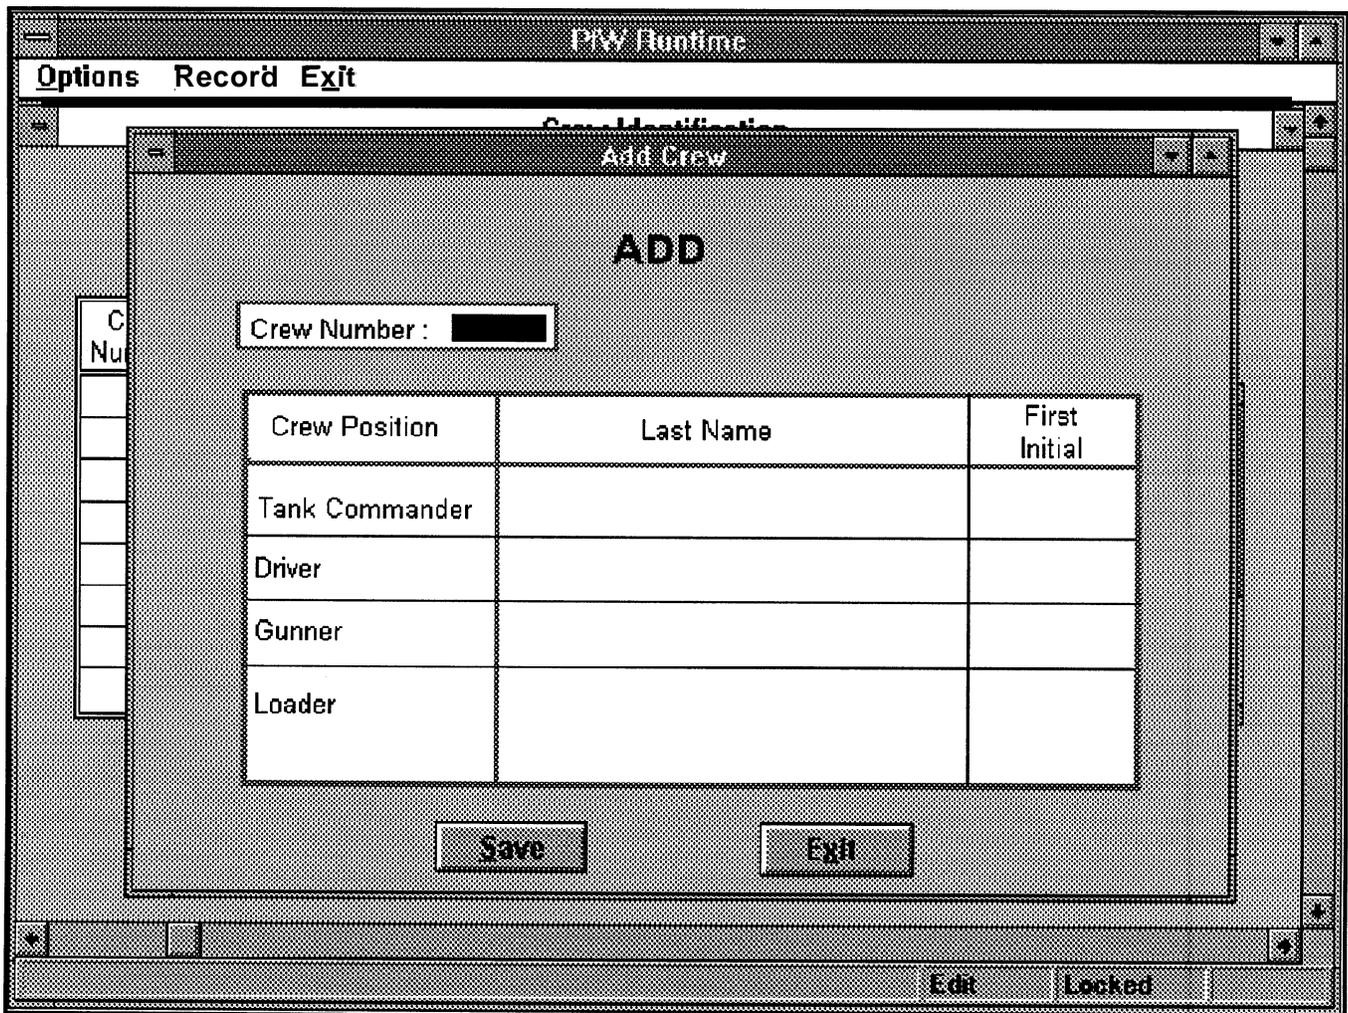

Figure 2-108. Add Crew Screen
- a. At the Crew Identification Screen, click on the Add button or select Add from the Options menu. The Add Crew Screen, Figure 2-108, displays.